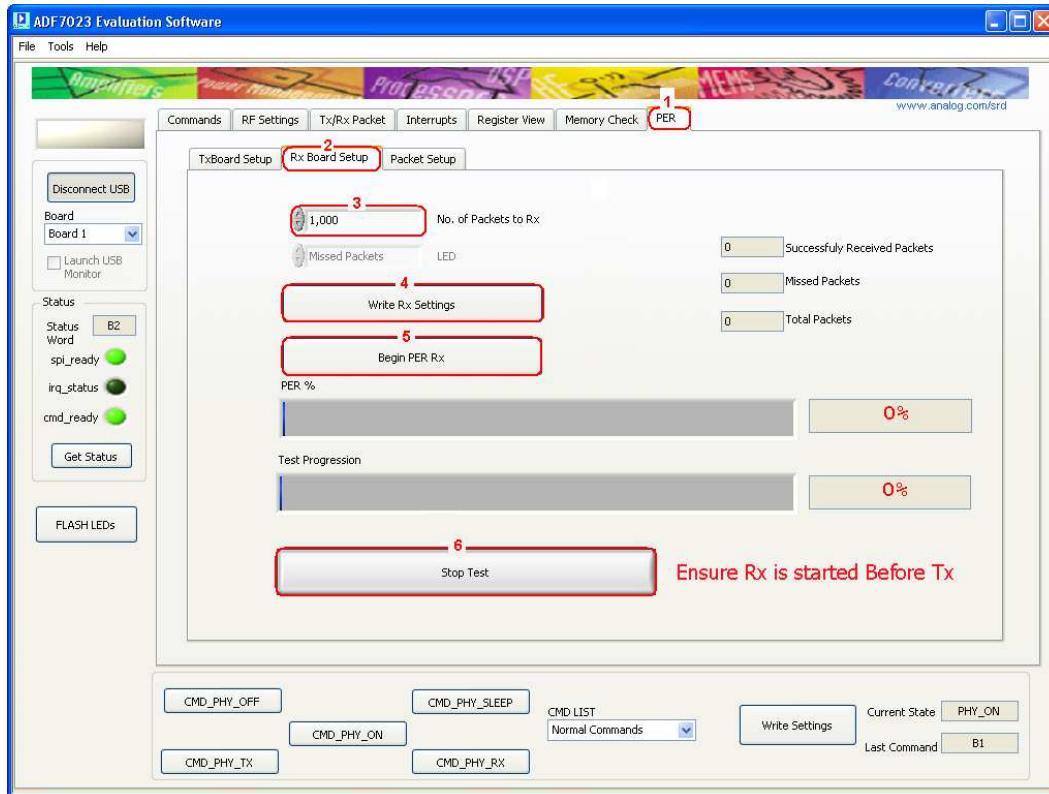

Figure 39
1. Once all of the Receiver and packet parameters are setup correctly (as in Rx Setup in Packet Mode section) then select the “PER” Tab. (Figure 39 point **(1)**)
2. Select the “Rx Board Setup” Tab (Figure 39 point **(2)**)
3. Set the number of packets to be received, “No. of Packets to Rx” (Figure 39 point **(3)**)
4. Write these settings to the uC by clicking “Write Rx Settings” (Figure 39 point **(4)**)
5. To begin the test and put the receiver into Rx click “Begin PER Rx” (Figure 39 point **(5)**)
6. If at any time you wish to terminate the test manually press “Stop Test”. (Figure 39 point **(6)**)